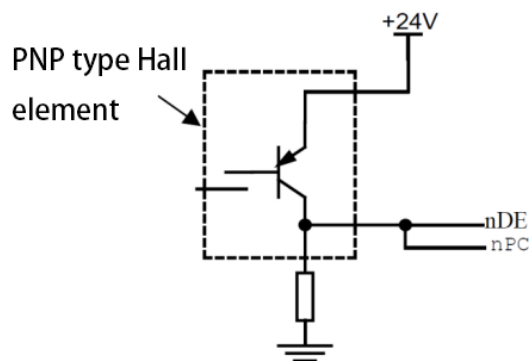

Figure 2-10 Connection with an PNP type Hall element
- c) The connection method when using a PNP-type Hall element as both a deceleration signal and a zero signal is shown in Figure 2-10 below